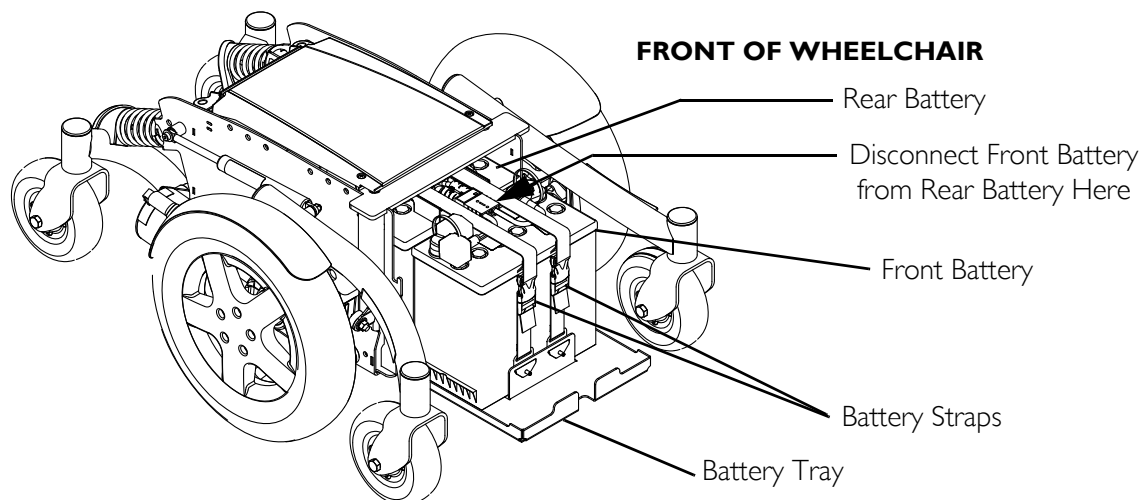
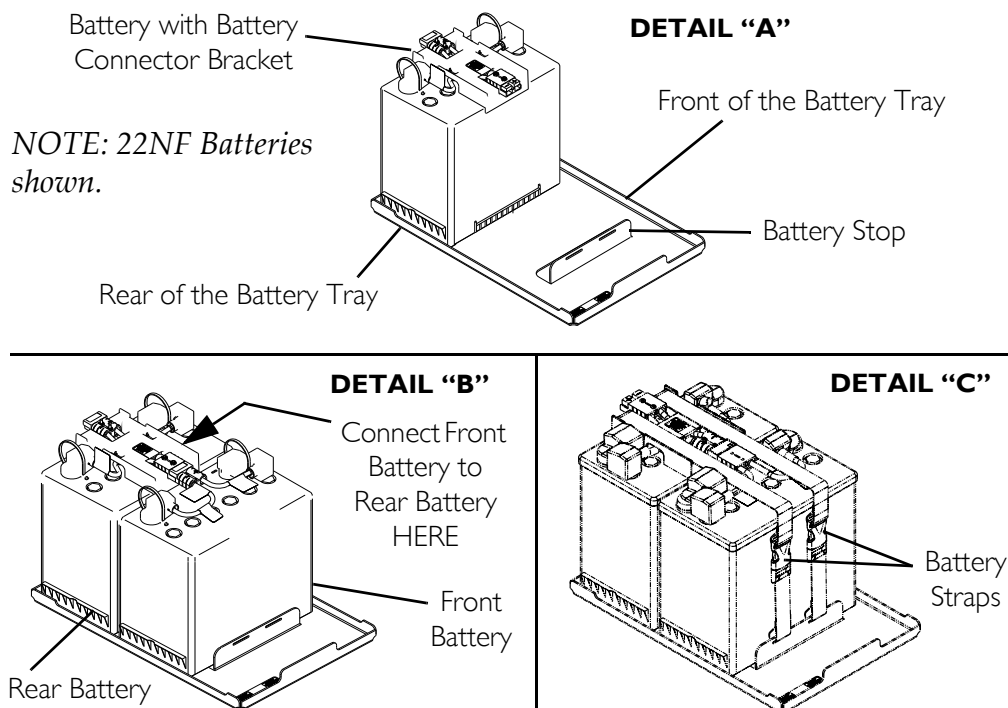

FIGURE 10.3 Removing the Batteries from Wheelchair
FIGURE 10.4 Installing Batteries into Wheelchair
NOTE: For this procedure, refer to FIGURE 10.3.
NOTE: For this procedure, refer to FIGURE 10.3 and FIGURE 10.4 on page 58.
NOTE: Positioning of the batteries into the battery tray is completed with battery tray positioned in wheelchair and partially pulled out. Refer to FIGURE 10.3 for full view of wheelchair base. Illustrations in FIGURE 10.4 on page 58 are shown without the wheelchair for clarification purposes only.
1. Position the battery with battery connector bracket in the rear of the battery tray in the orientation as shown. See Detail “A” of FIGURE 10.4 on page 58.
2. Position the remaining battery in the front of the battery tray in the orientation shown so that the wiring harnesses can be connected together. See Detail “B” of FIGURE 10.4 on page 58.
3. Connect front battery to rear battery. See Detail “B” of FIGURE 10.4 on page 58.
4. Connect battery straps. See Detail “C” of FIGURE 10.4 on page 58.
5. Slide the battery tray into the wheelchair (FIGURE 10.3).